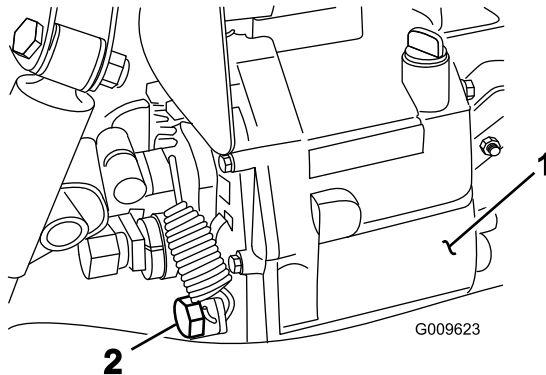

Figure 71
2. Remove the drain plug from the side of the reservoir, and let the hydraulic fluid flow into a drain pan (Figure 71).